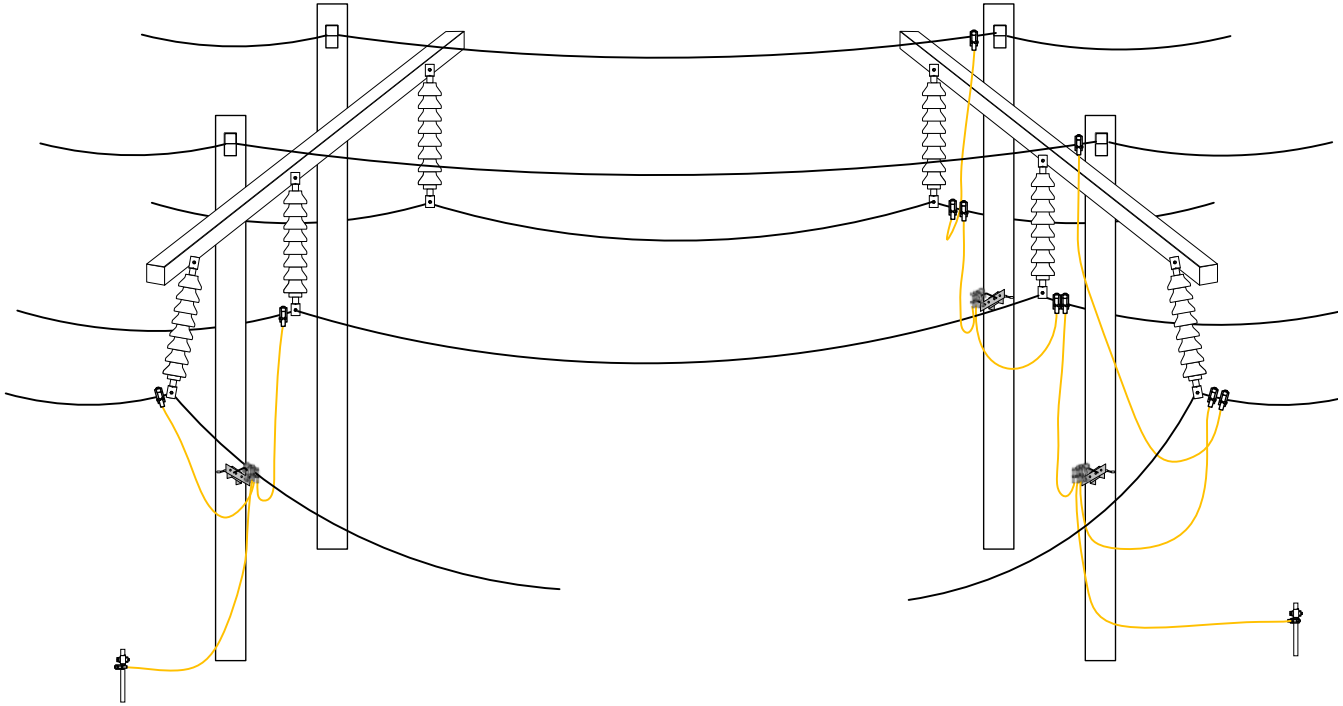

Figure A1 – Broken Conductor
- b) Bond and/or ground the other side of the conductor, establishing continuity between both sides of the conductor prior to commencing work. Refer to Figure A1.